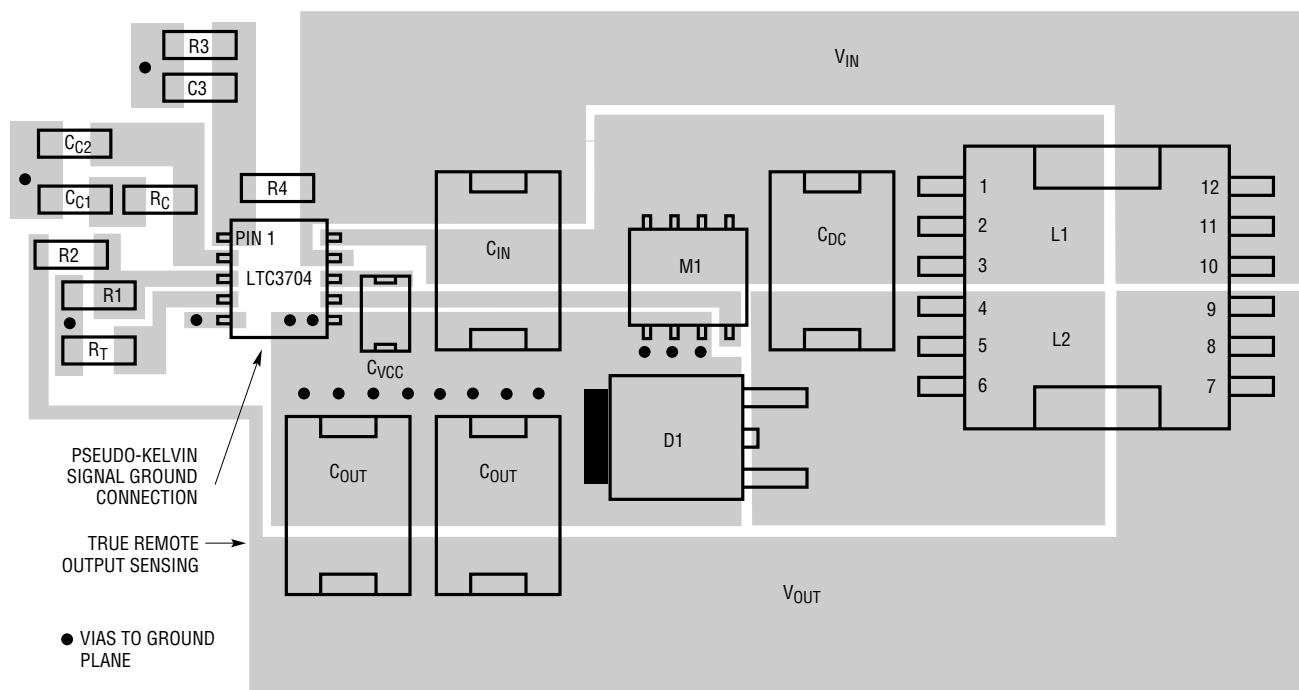

Figure 22. LTC3704 Positive-to-Negative Converter Suggested Layout
6. Place the small-signal components away from high frequency switching nodes. In the layout shown in Figure 22, all of the small-signal components have been placed on one side of the IC and all of the power components have been placed on the other. This also allows the use of a pseudo-Kelvin connection for the signal ground, where high di/dt gate driver currents flow out of the IC ground pin in one direction (to the bottom plate of the $INTV_{CC}$ decoupling capacitor) and small-signal currents flow in the other direction.